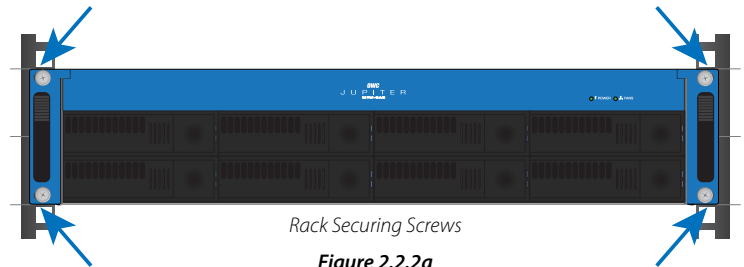

Figure 2.2.2a
3. Remove the four rack securing screws from the front of the Jupiter unit as shown in **Figure 2.2.2a**.